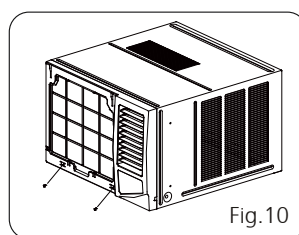

Fig.10
2. Press both side and lower edge of the frame, and secure it with the two screws at the bottom of the frame.(See Fig. 10)